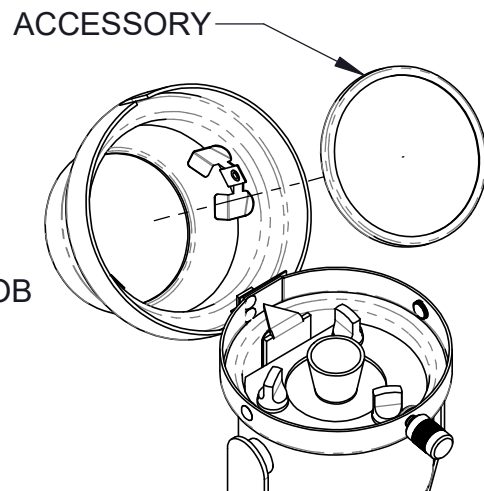

FIGURE 16. ACCESSORY REMOVED FROM FIXTURE FRONT
3. REMOVE ANY ACCESSORIES FROM FIXTURE FRONT (FIG. 16).